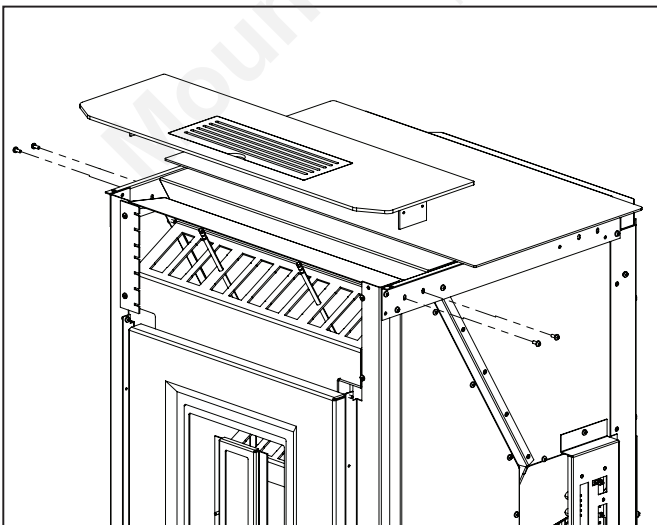

Figure 5: Front Top assembly removal.
5. Remove Front Top assembly, four screws, figure 5.